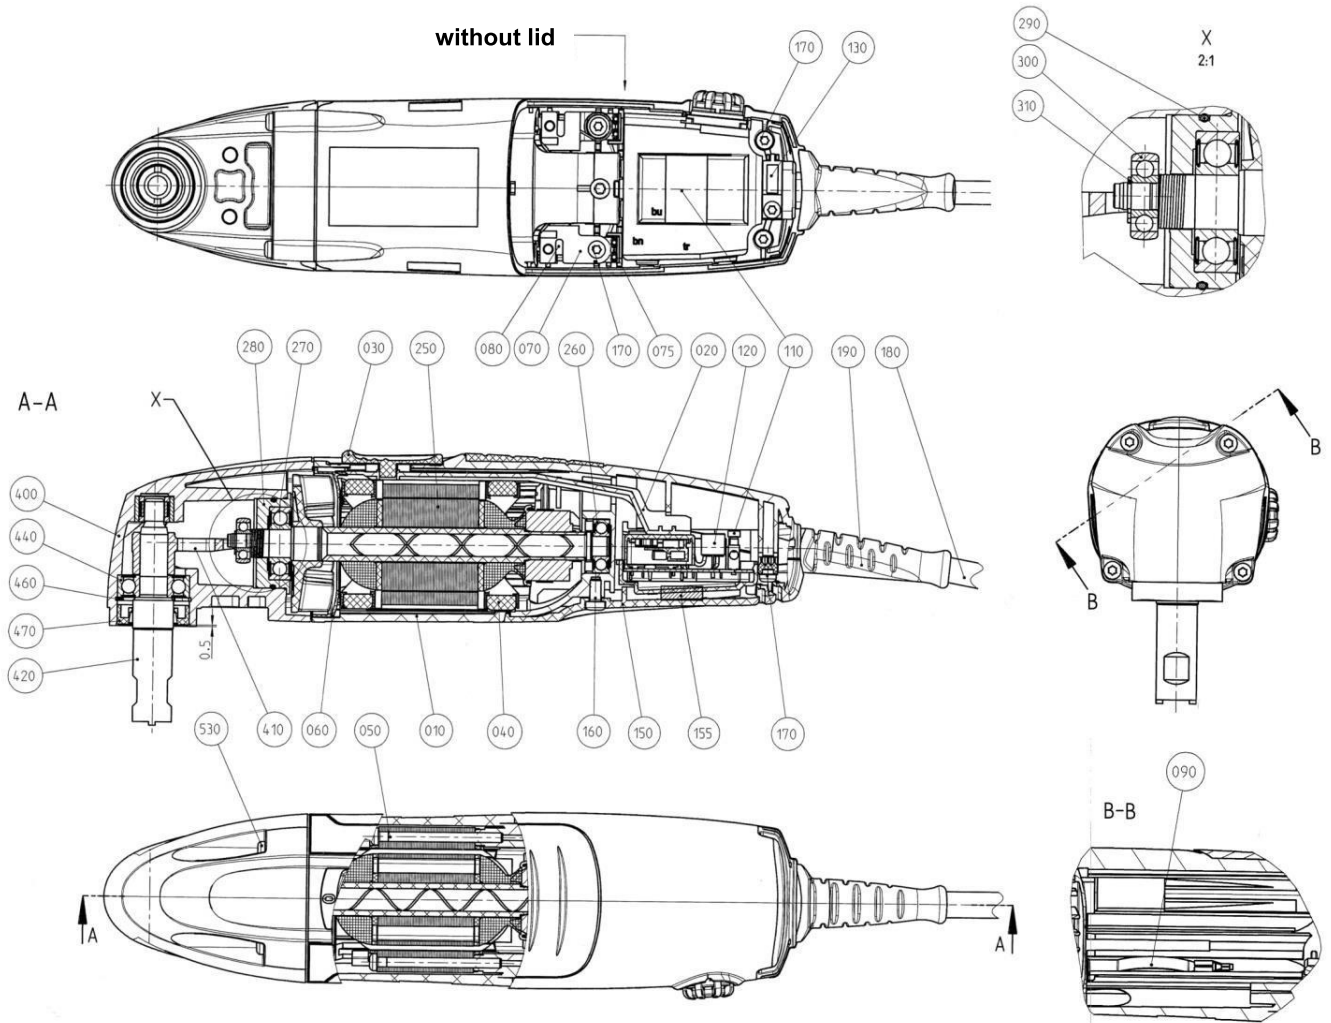
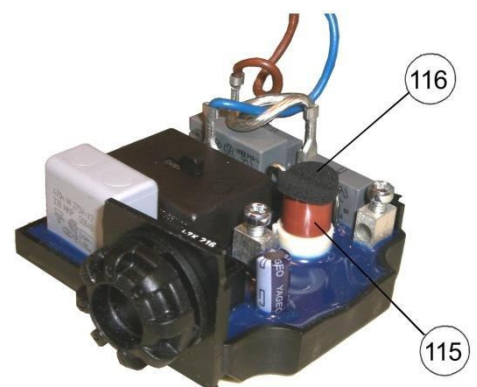

Fig 7: Motor drawing
Fig 9: Electronic circuit
- If the motor is overloaded, the device is automatically switched off. The fuse (see fig. 9 on page 23, item 110) is located on the electronic circuit board (see fig. 7 on page 23, item 110) and can be quickly and easily exchanged after unscrewing the housing.
The drawing items refer to fig. 7 to 9, next page.